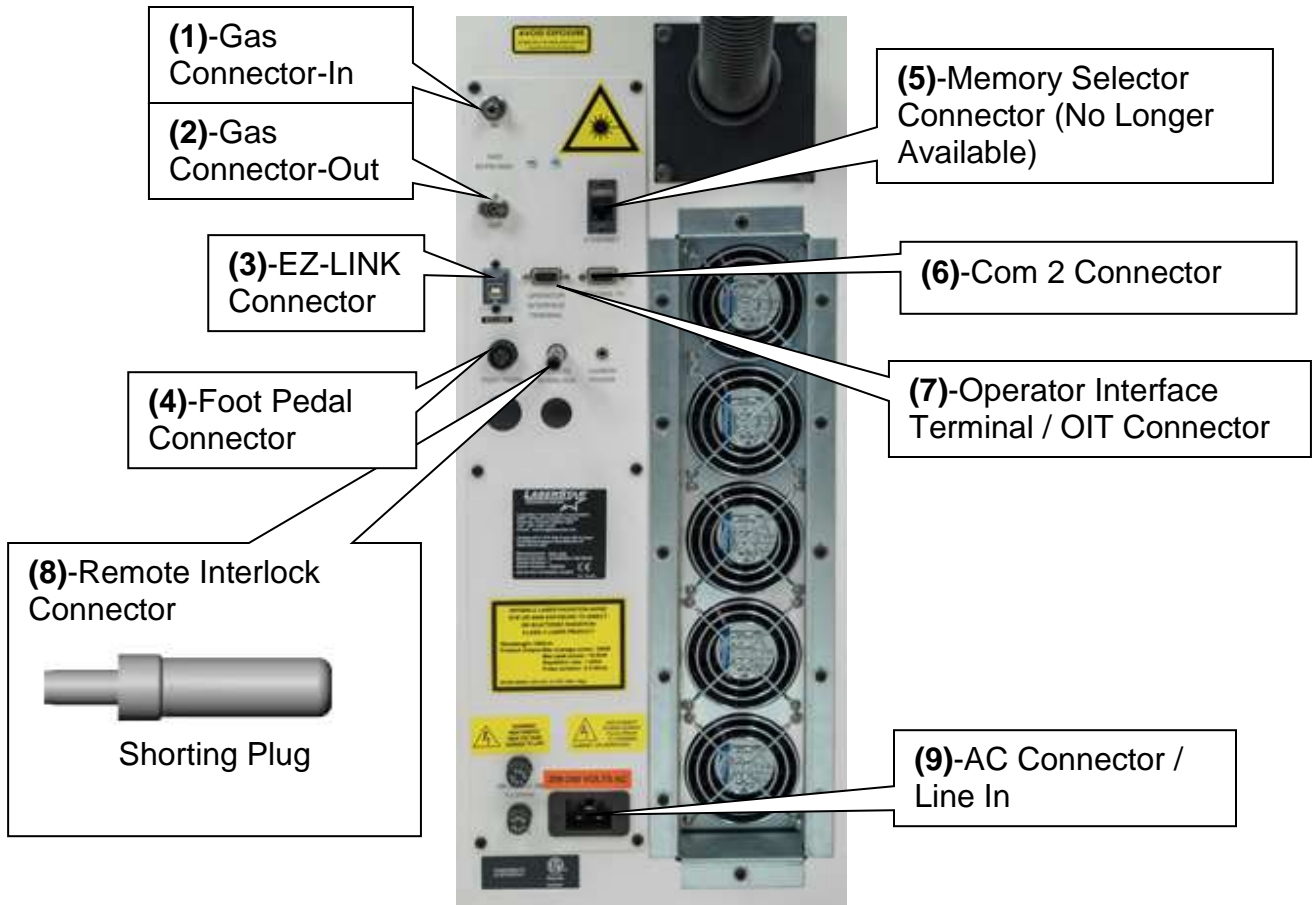

Figure 2
4. Remove external fuses and check or replace as needed (**Figure 2**)
Rear Connections (Figure 2)